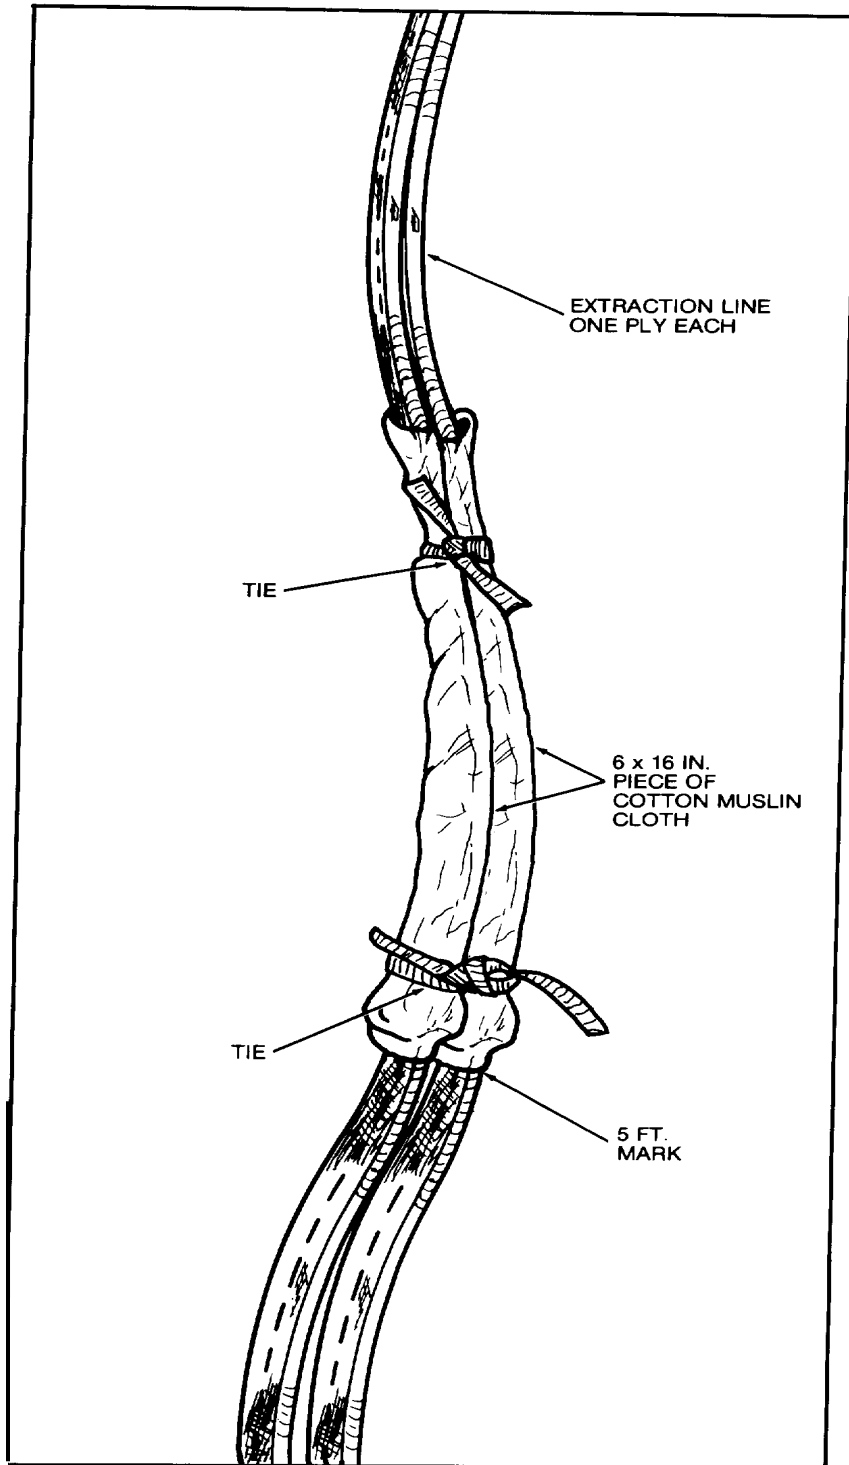

Figure 2. Extraction Line Separated and Each Ply Wrapped with Clot
- a. Separate and wrap each ply of extraction line with two 6 x 16-inch pieces of cotton muslin cloth at point immediately above 5-foot mark on extraction line (figure 2).